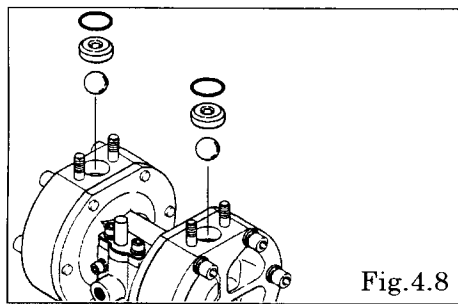

Fig.4.8
- Remove the O ring, ball and valve seat. [Fig.4.8]